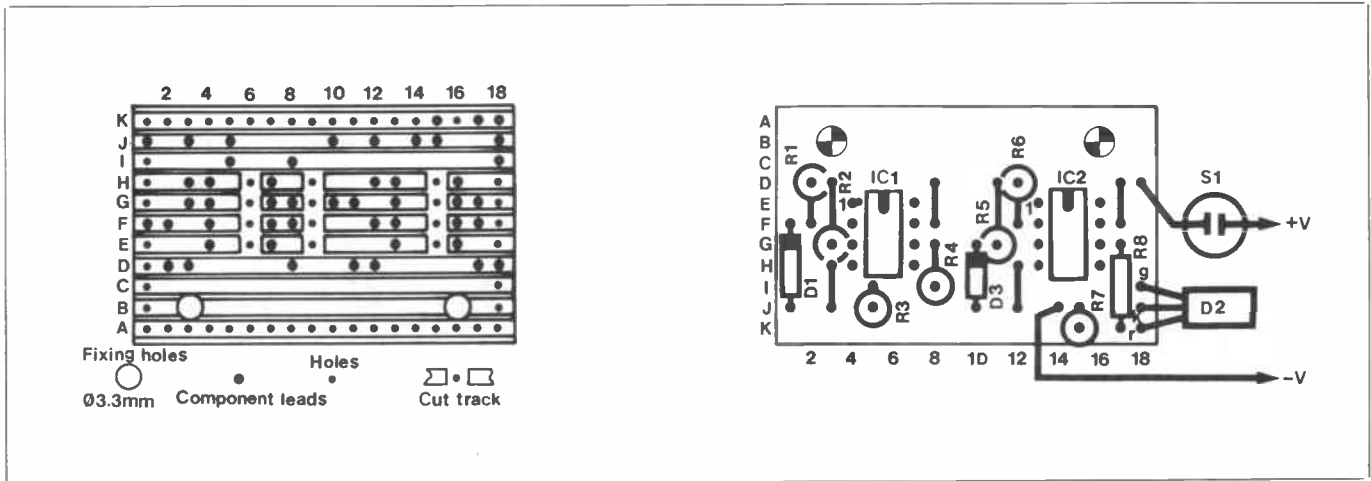

Figure 3. Veroboard layout for the battery monitor.
0.1in. matrix Veroboard, and in this case a board measuring 11 copper strips by 18 holes is required. Cut out a board of this size using a hacksaw and then file the sawn edges to a neat finish. Next drill the two 3.3mm diameter mounting holes (which accept M3 or 6BA fixings) and make the twelve breaks in the copper strips at the points indicated in the layout diagram which is shown in Figure 3. There is a special tool available for making the breaks in the strips, but they can also be made using a modelling knife or a small twist drill.